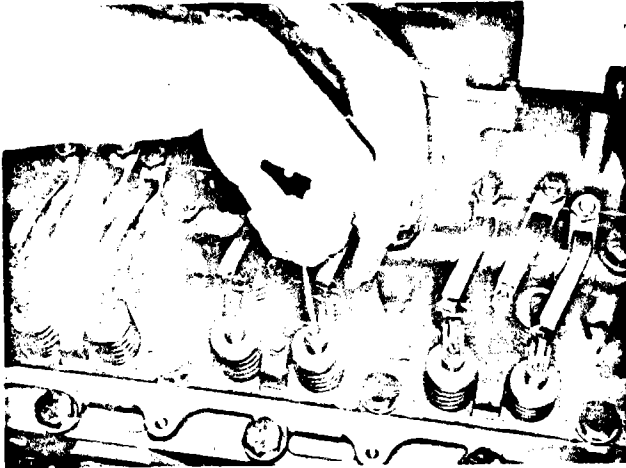

Fig. 2-40, (V51490). Adjusting crossheads — V-903
2. Use light finger pressure at the rocker lever contact surface to hold the crosshead in contact with the valve stem (without adjusting screw), Fig. 2-40.